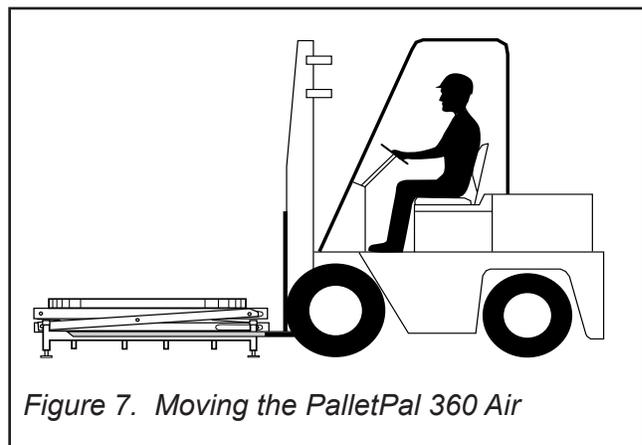

Figure 7. Moving the PalletPal 360 Air
2. Insert the forks into the pockets in the base frame. See Figure 7.